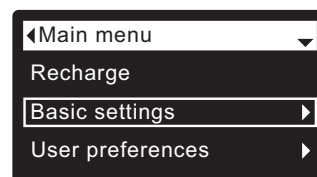

FIG. 52
1. From any of the rolling status screens, press the SELECT (O) button to display the **Main menu**.
2. Press the DOWN (▼) button to scroll through the menu options until **Basic settings** is highlighted (See Figure 52).